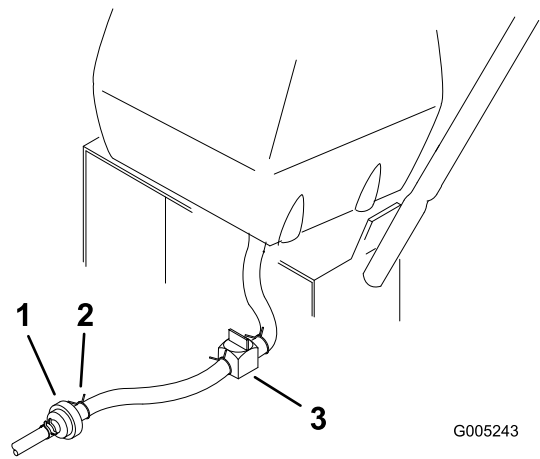

Figure 29
2. Close the fuel shut-off valve at the fuel tank (Figure 29).
3. Squeeze the ends of the hose clamp together and slide it up the fuel line away from fuel filter (Figure 29).
4. Pull the fuel line off the fuel filter (Figure 29). Open the fuel shut-off valve and allow the gasoline to drain into a gas can or drain pan.
3. Close fuel shut-off valve at the fuel tank (Figure 29).
7. Open fuel shut-off valve at fuel tank (Figure 29).